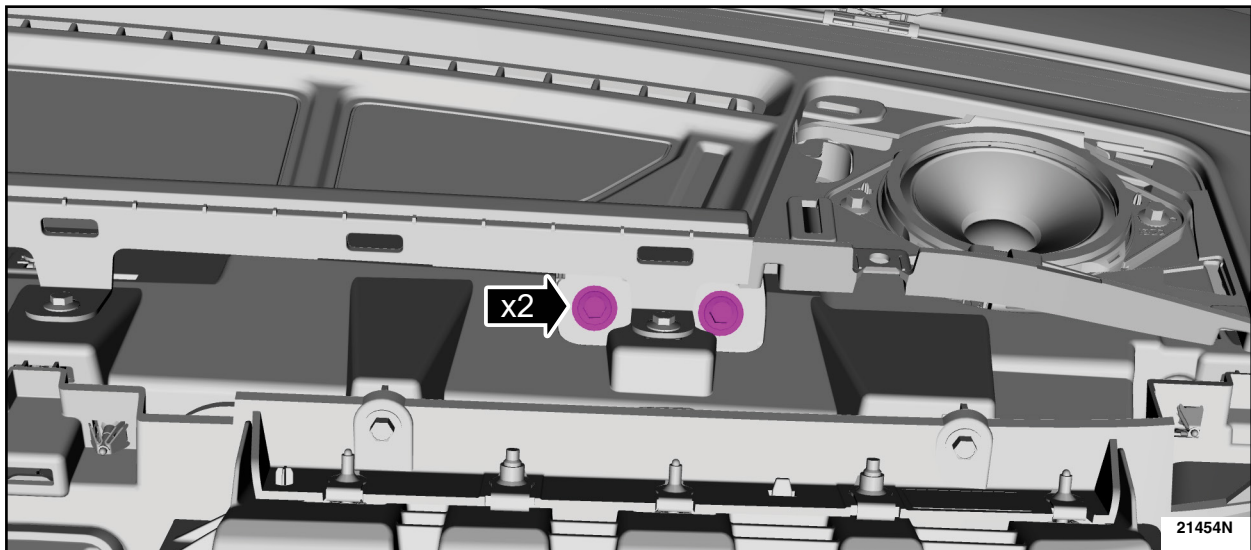

FIGURE 13
13. Remove the upper passenger side air bag bracket bolts. See Figure 13.